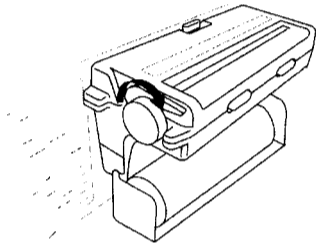

Figure 8. Turn the paper feed knob in arrow direction
- Turn the paper feed knob so that the tip of the paper comes out of the paper cutter slot at the top of the printer (refer to Figure 8).